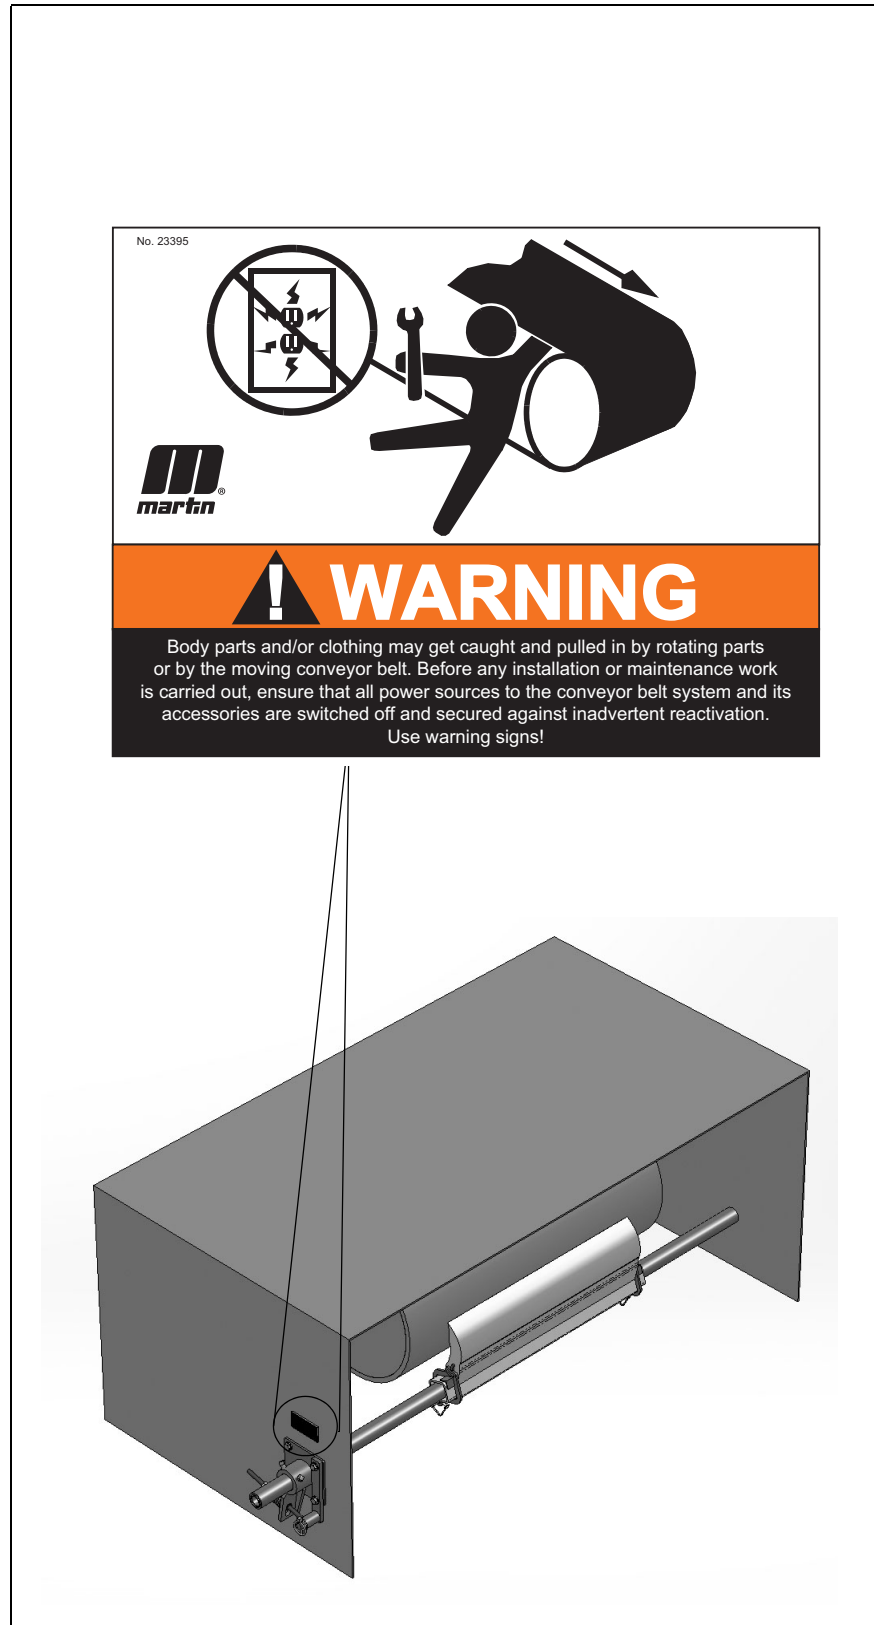

Fig. 8: Conveyor Products Warning Labels
5. Remove the pin wire lock (7, Fig. 8).
6. Pull the blade stop (4 or 8, Fig. 8) out of the mainframe (1, Fig. 8) from the side.
7. Remove the blade (2, Fig. 8) by pulling the entire blade in the direction of the operator side (possibly with light hammer hits) and then pulling it up.